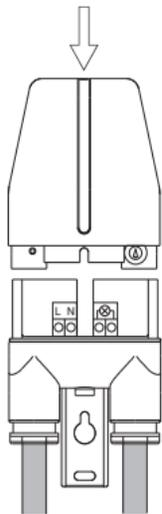
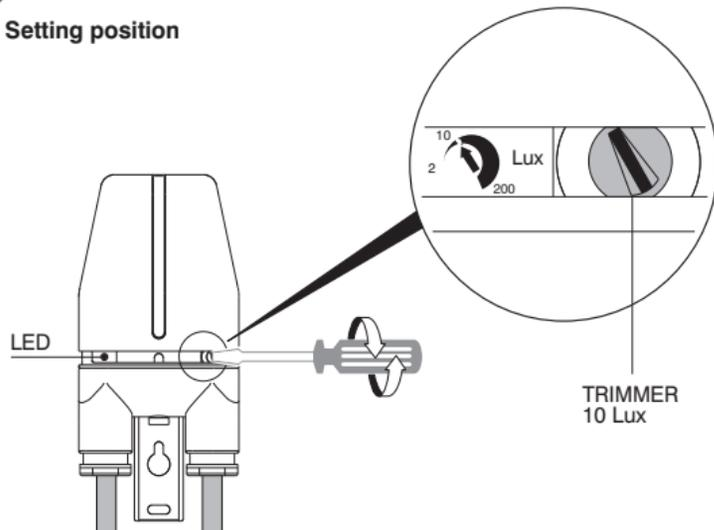

fig.5
fig.6
position the dome (fig. 5) and press down until the captive screw is engaged; the adjustment trimmer and the threshold trip indicator LED should be visible (fig. 6), and the faston clips of the circuitry should be in contact with the terminals on the base.
make the threshold adjustment (from 2 to 200 LUX) by turning the trimmer (fig.6); the LED will light up to indicate correct operation of the sensor.
- The light-sensitivity adjustment can be made with the device under load and in complete safety, simply by selecting the setting position (fig. 6).